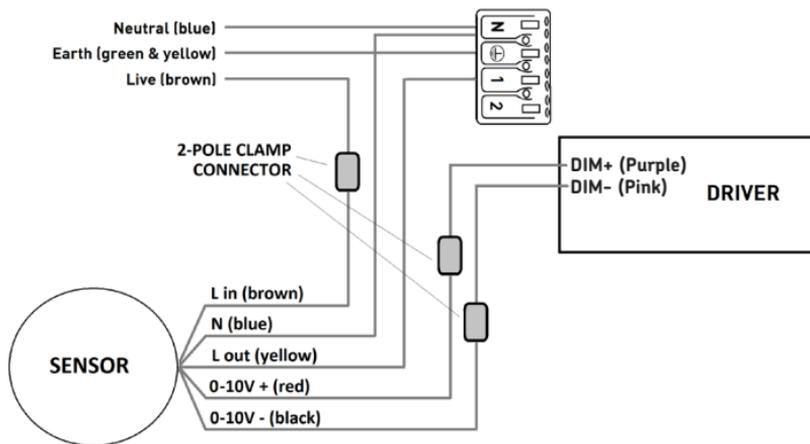

Fig. 1
- Ensuring correct polarity is observed, carefully wire as shown in Fig. 1, using the three 2-pole clamp connectors provided